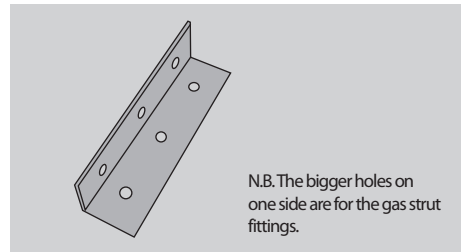

Figure 6
- ✓ 4 x Angle mounting brackets, As indicated in Figure 6.
1 x Angle mounting bracket, As indicated in Figure 6. Fasteners included with strut